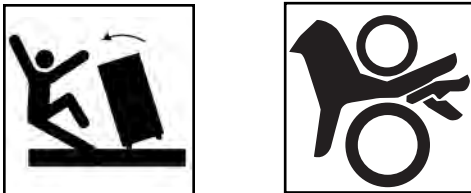

Figure 6 – Warning Label
- Presence and readability of the warning label (see Figure 6).